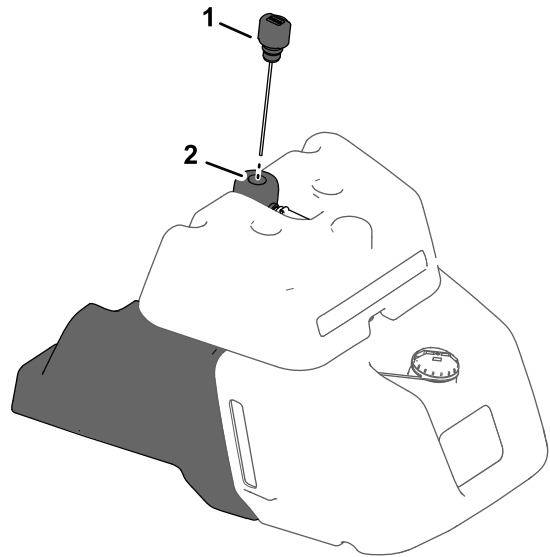

Figure 37
- If your machine has a fuel sight gauge at the side of the fuel tank, locate the dipstick for the hydraulic system at the top of the hydraulic tank (Figure 37) and proceed to step 5.